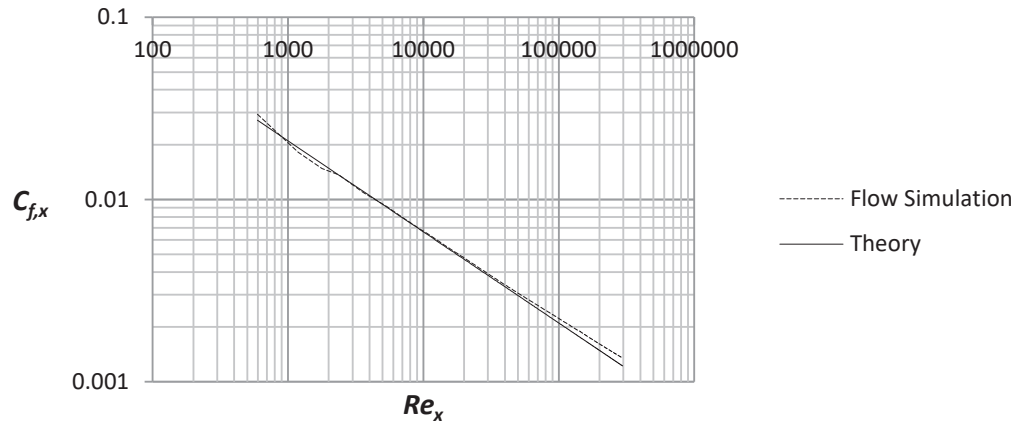

Figure 2.26 Local friction coefficient as a function of the Reynolds number
Place the file “**graph 2.26)**” on the desktop. Repeat step 24 but this time choose the sketch  $\mathbf{x} = \mathbf{0} - \mathbf{0.9}$  m, uncheck the box for **Velocity (X)** and check the box for **Shear Stress**. Use the file “**graph 2.26)**” to create Figure 2.26. Rename the xy-plot to **Local Friction Coefficient**. Figure 2.26